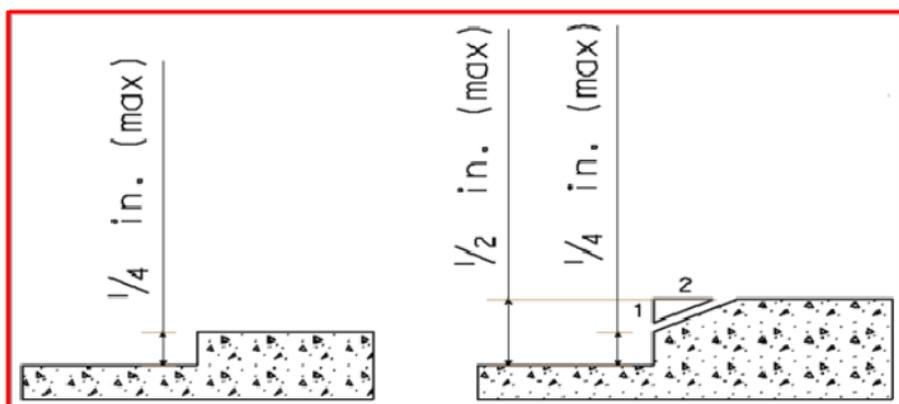

Figure 3. Surface Discontinuities
- Surface discontinuities must not exceed $\frac{1}{2}$ inch maximum. Vertical discontinuities between $\frac{1}{4}$ inch and $\frac{1}{2}$ inch should be beveled at a maximum of 2:1 or flatter, and bevels should be constant across the entire level change. New surfaces must not have vertical surface discontinuities. Curb ramps, landings, and gutter areas must not have surface discontinuities. (See Figure 3.)